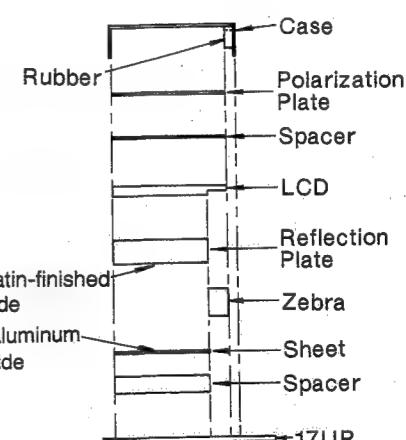

Fig. 22-2
*5. To replace the frequency LCD, refer to Fig. 22-2.